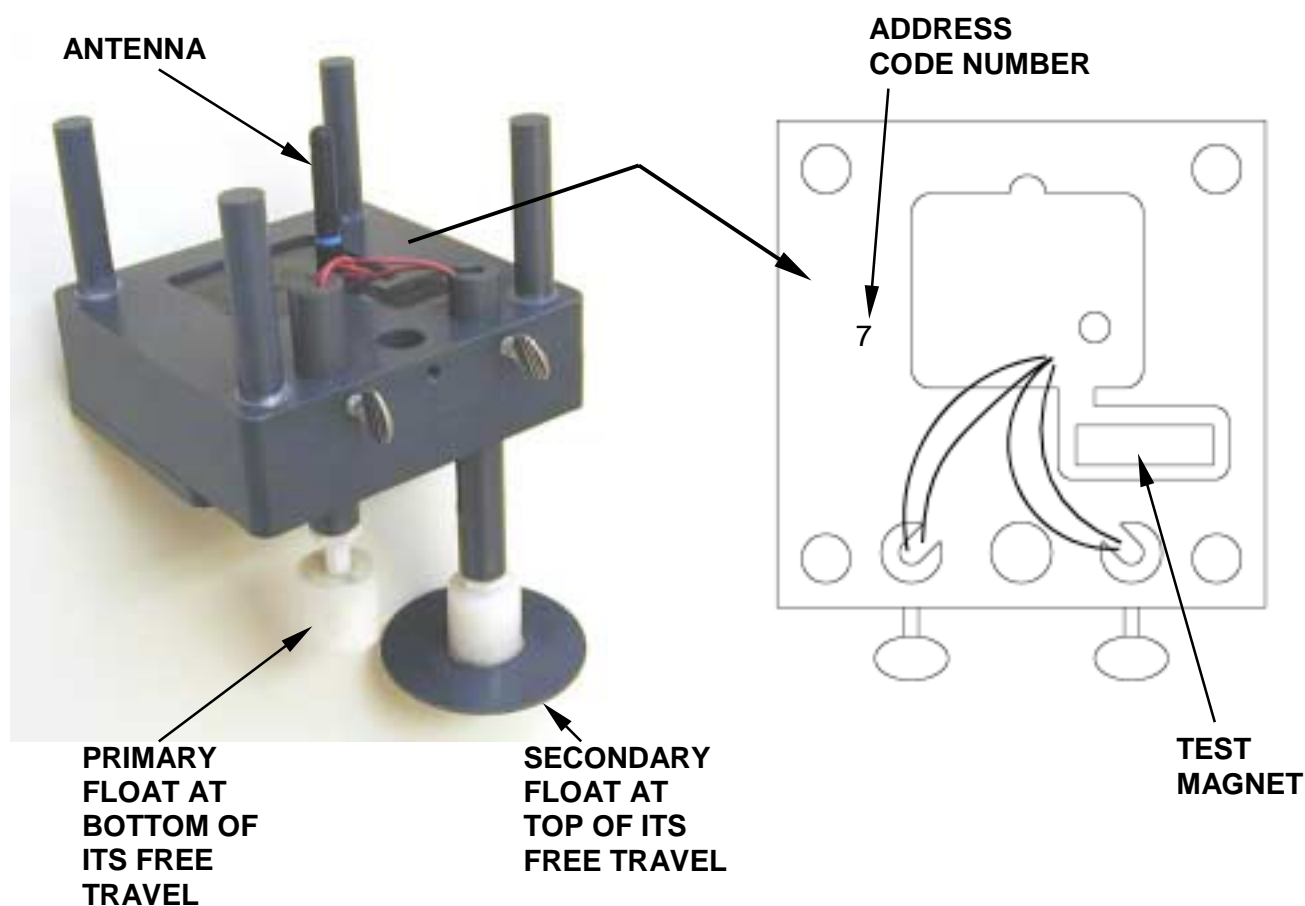

Figure 2-3. Preparing Transmitter for Communication Test
3. Refer to figure 2-3 and raise the secondary float to the top of its travel and allow primary float to rest at the bottom of its travel.
3. Make certain the bonding agent has had a full hour to cure then, place the test magnet over the switch area of the transmitter as shown in figure 2-3. Tape the magnet in this position.
1. Refer to figure 2-3 and check the top of the transmitter float assembly for a stamped-in number from 1 to 7. This is the transmitter radio address code number.